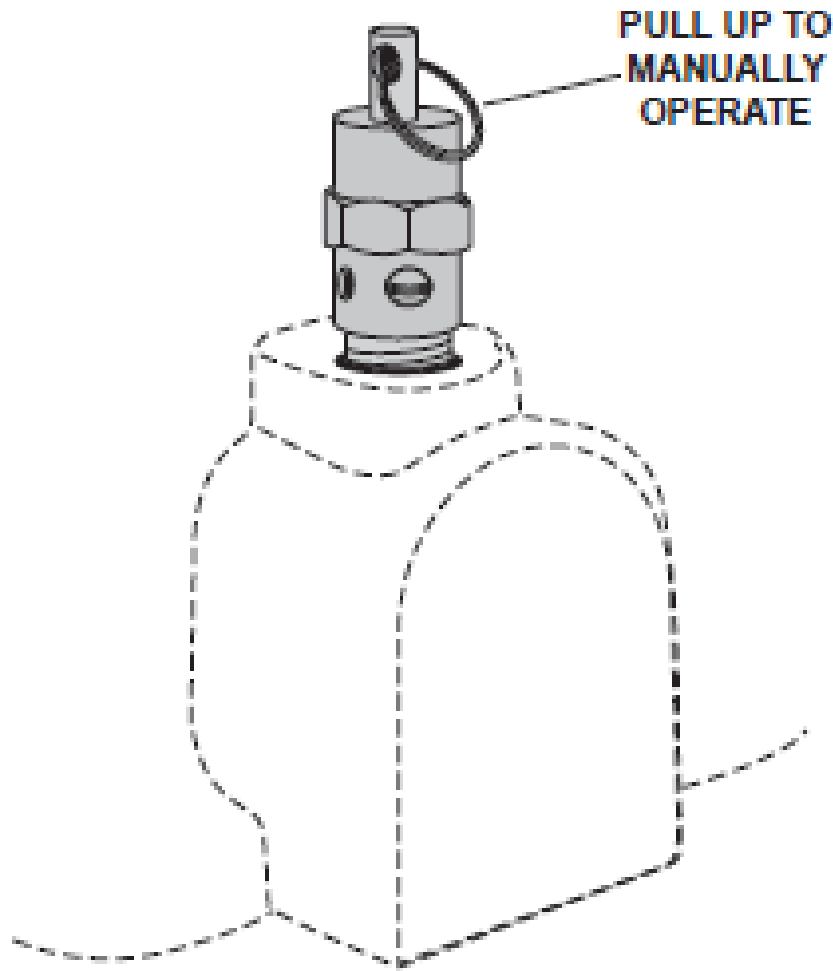

Figure 551-88L-2045_03
- (1) Perform an overall visual inspection, ensuring that all hardware and safety guards are in place and tight.
- (2) Check for visible signs of oil leakage.
- a. Manually operate the pressure relief valves to be certain they are working on: (refer to Figure 551-88L-2045_03).
- (1) Both air compressors.
- (2) Both starting air receivers.
- (3) Ships service air receiver.